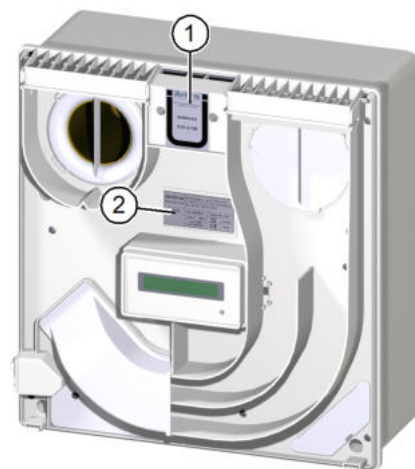

Fig. 2: Approval number and nameplate
The approval number is Z-51.3-138 (see item 1 in Fig. 2).
You will find the nameplate on the intermediate plate on the inside of the housing (see item 2 in Fig. 2 on page 6).